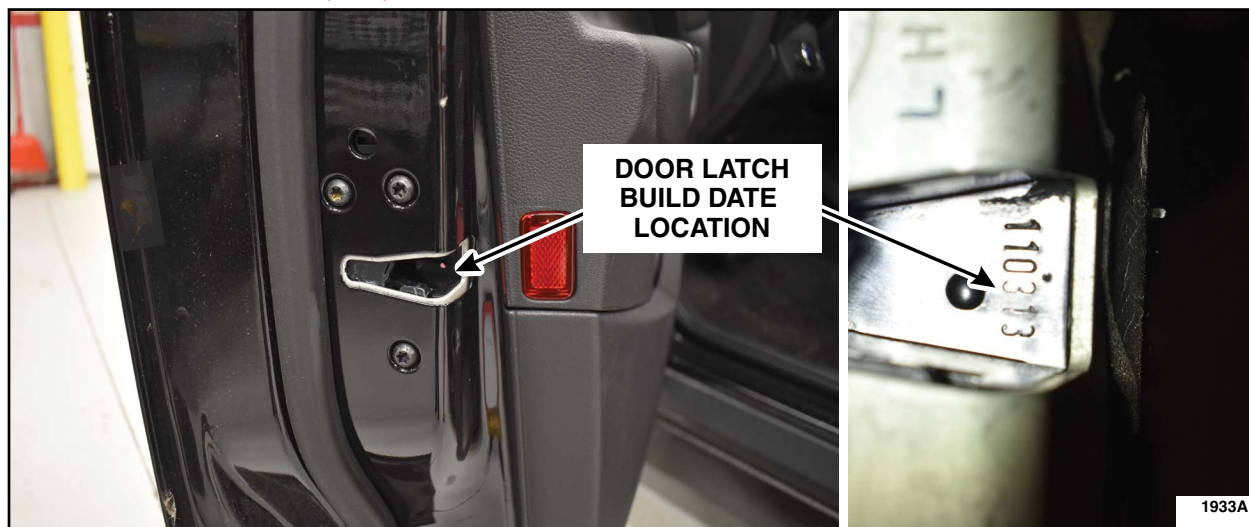

FIGURE 2
2. *Locate, inspect and record the date codes on all 4 door latches. See Figure 2. Are all date codes readable?*